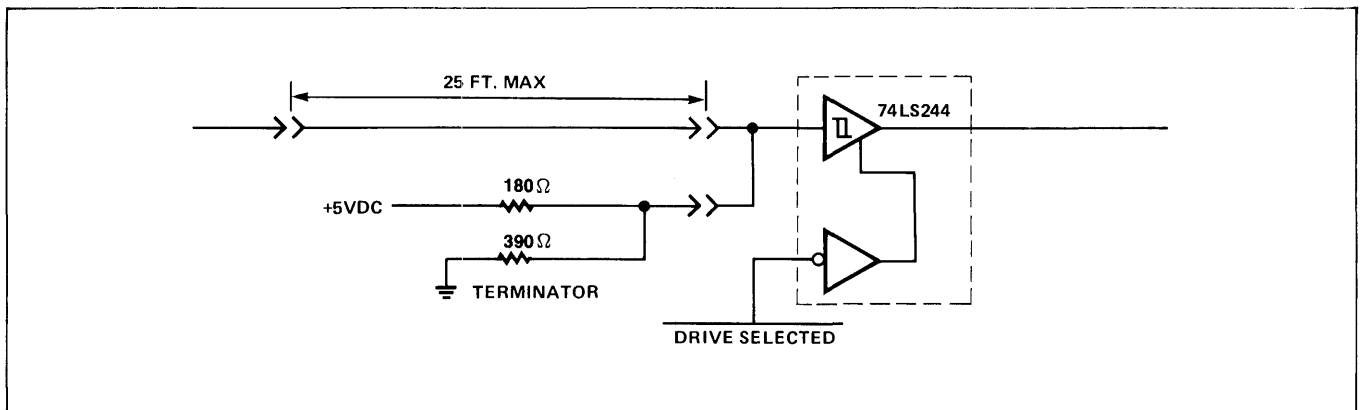

Figure 4-11. Single End Line Receiver Gated by DRIVE SELECT
2. + *AD 0-1*. This high-active 2-bit wide address bus is used to select one of three registers into which data can be stored, or one of three registers from which data can be read. These lines connect directly to a 74LS244 Schmitt-triggered receiver gated by DRIVE SELECTED, as shown in Figure 4-11. The DC characteristics are listed in Table 4-8. These lines should be terminated at the drive end.
3. - *RD*. This low-active signal is used to gate the contents of the selected register (decode of AD1 and AD0) onto the DBUS. This line is connected to a 74LS2244, gated by DRIVE SELECTED, as shown in Figure 4-11. The DC characteristics are listed in Table 4-8. This line should be terminated at the drive end.
4. - *WR*. This low-active signal is used to gate the DBUS into the selected register (decode of AD1 and AD0). This line is connected to a 74LS244, gated by DRIVE SELECTED, as shown in Figure 4-11. The DC characteristics are listed in Table 4-8. This line should be terminated at the drive end.
5. - *RESET*. This low-active signal resets the drive logic. If the drive is sequenced down when RESET occurs, it will remain sequenced down. If the drive is sequenced up, it will remain sequenced up and the head carriage will restore to cylinder zero. This line is connected to a 74LS244, gated by DRIVE SELECTED, as shown in Figure 4-11. The DC characteristics are listed in Table 4-8. This line should be terminated at the drive end.
6. - *WRITE GATE*. This low-active signal enables the writing of data by a selected head. This line is connected to a 74LS244, as shown in Figure 4-11. The DC characteristics are listed in Table 4-8. This line should be terminated at the drive end.
7. - *READ GATE*. This low-active signal initiates synchronization of the drive's variable frequency oscillator for data separation. READ GATE must be enabled during a gap. This line is connected to a 74LS244, as shown in Figure 4-11. The DC characteristics are listed in Table 4-8. This line should be terminated at the drive end.